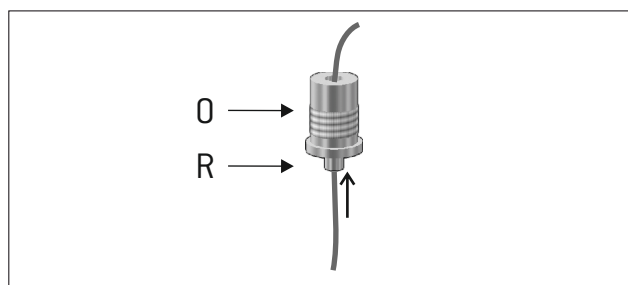

Figure 16
16 - Insert the cables into the grippers (O) by pressing the knob (R). Figure 16.